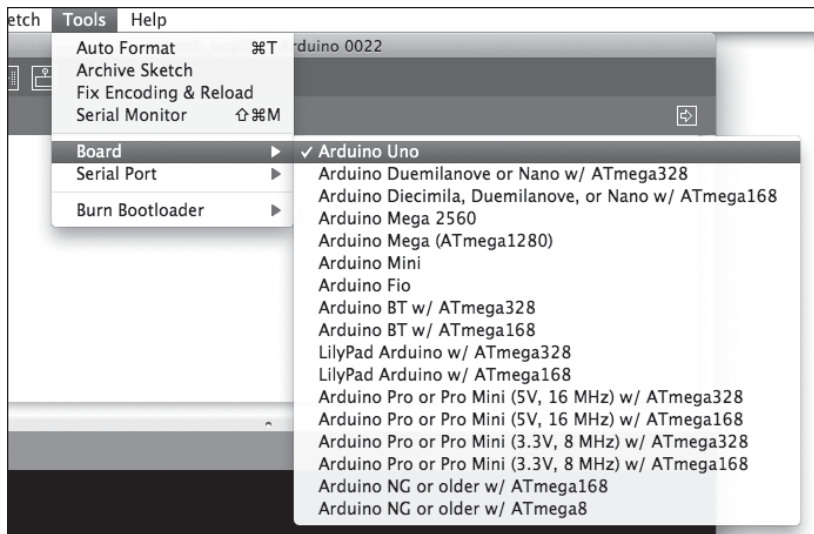

Figure 1-14: Selecting the correct Arduino board
4. The final step is to tell the IDE which Arduino board you have connected. This is crucial, since Arduino boards do differ. For example, if you have the most common board, the Uno, then select **Tools ▶ Board ▶ Arduino Uno**, as shown in Figure 1-14. The differences in Arduino boards are explained in more detail in Chapter 11.